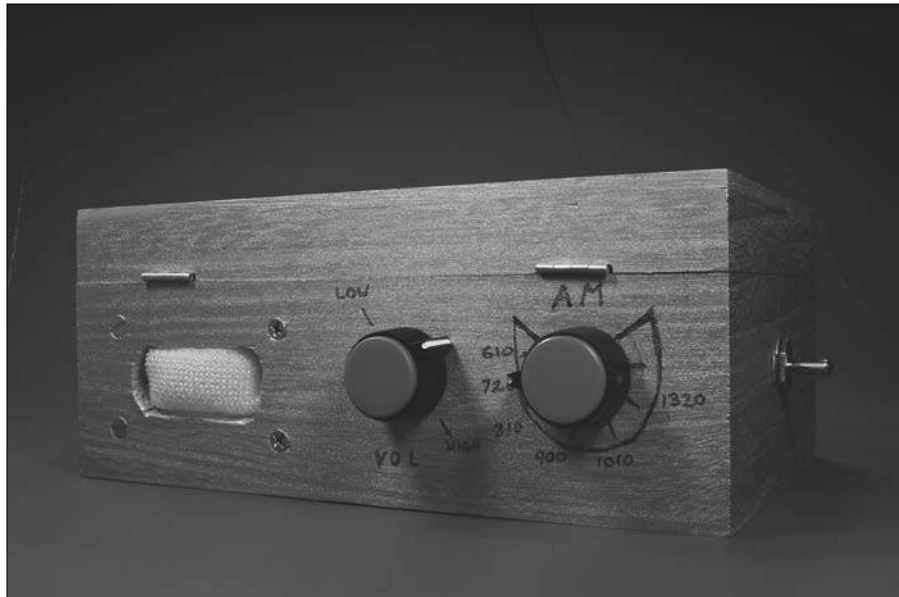

Figure 8-15:
6. Close the lid on the box and admire your finished radio, as shown in Figure 8-15.